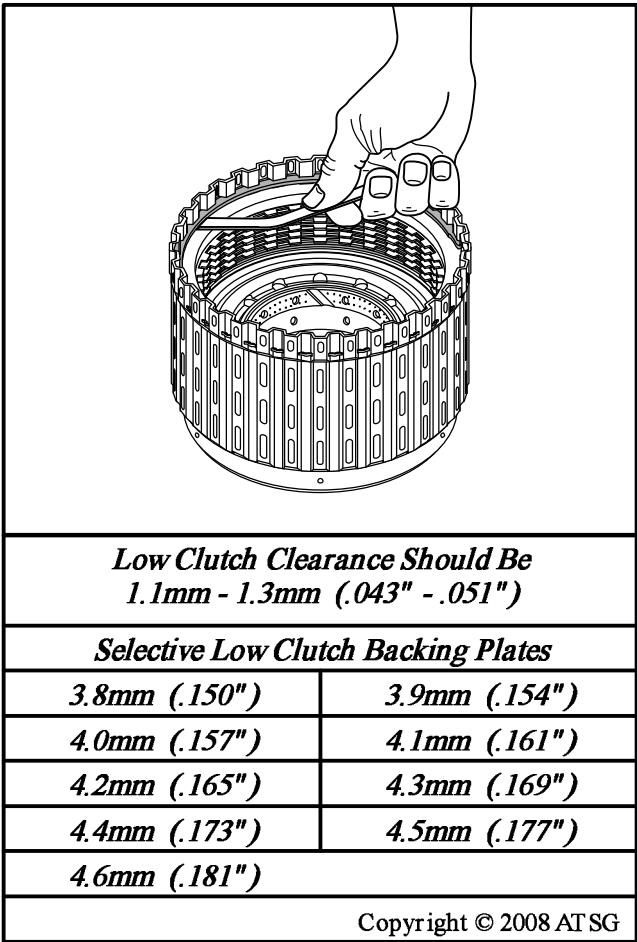

Figure 130
- 15. Measure low clutch clearance using a feeler gage, as shown in Figure 130.
- 16. Change selective backing plate as necessary using the chart in Figure 130.